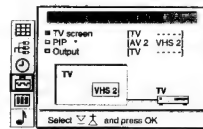

Fig. 45
- Select the symbol for »Video Connection« with Δ+ or ∇- and press OK. The VIDEO CONNECTION menu appears. (See Fig. 45)